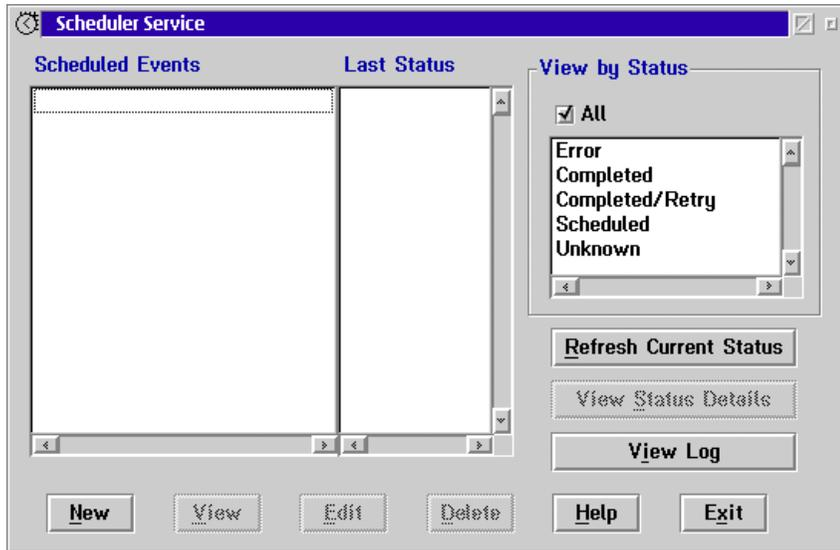

Figure 37. Event Scheduler Main Window
1. Double-click **Event Scheduler**. Figure 37 appears: